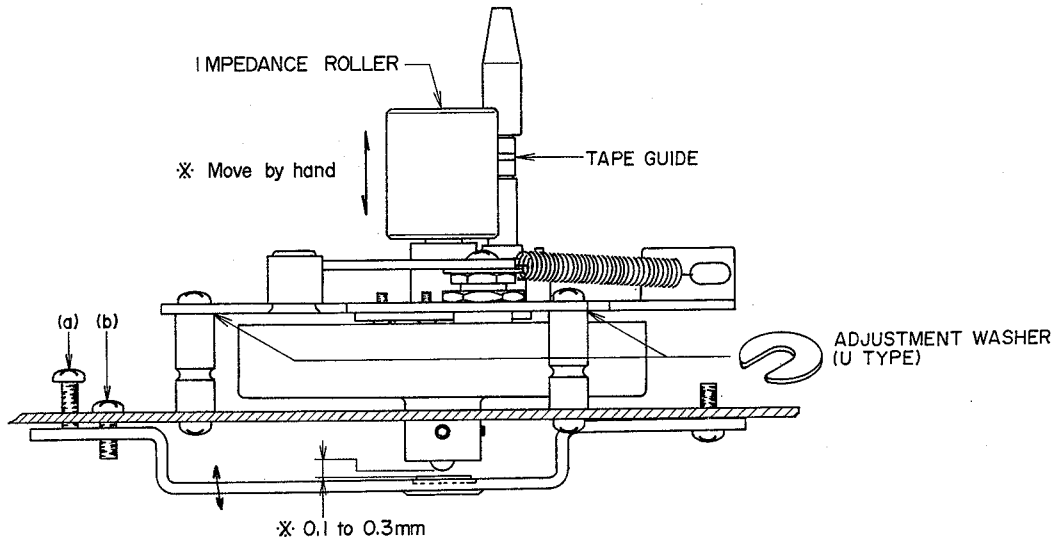

Fig. 10
(Refer to Fig. 10 and 11)
1) Left tape guide (Refer to Fig. 10)
3. IMPEDANCE ROLLER LOOSE PLAY ADJUSTMENT (Refer to Fig. 10)